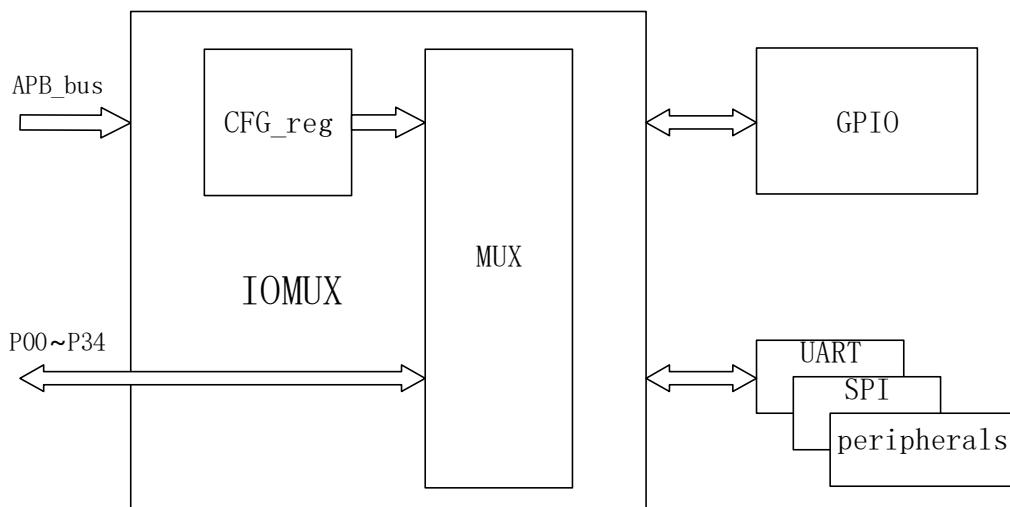

Figure 10: IOMUX structure diagram
**Figure 10** below shows the IOMUX functional diagram.